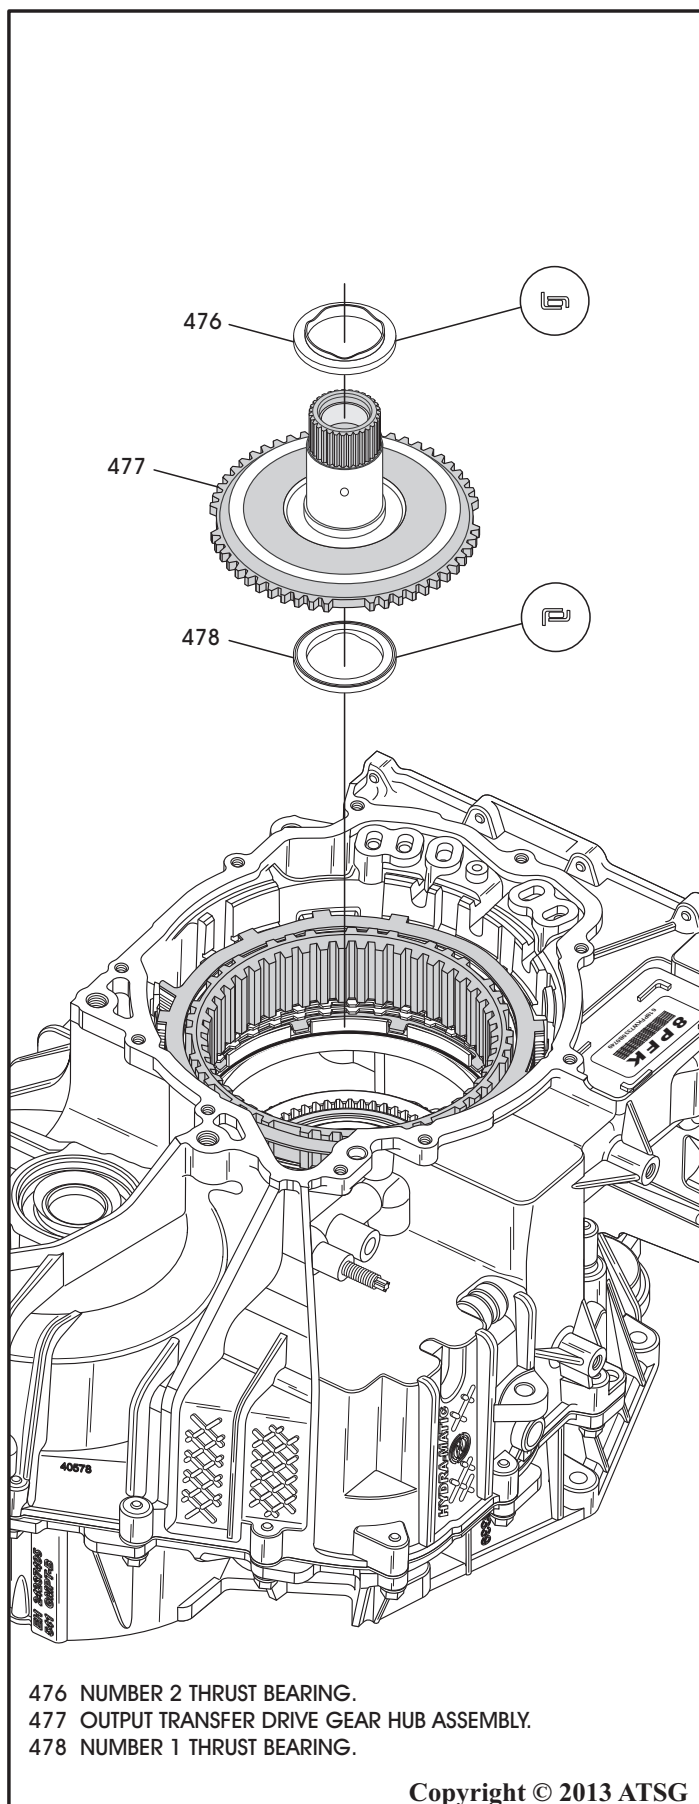

Figure 199
25. Install number 1 thrust bearing in the direction shown in Figure 199, onto the drive sprocket support assembly.
26. Install output transfer drive gear hub assembly, as shown in Figure 199, and engage it into the teeth on the drive gear assembly.
27. Install the number 2 thrust bearing in direction shown in Figure 199, onto the output transfer drive gear hub assembly.